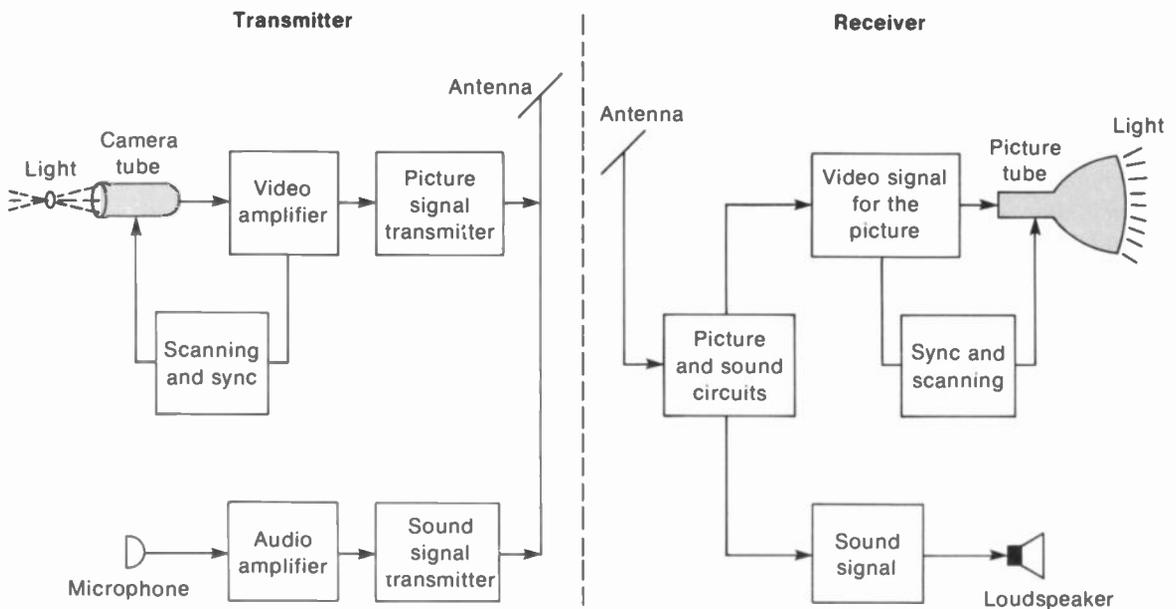

FIGURE 1-2 BLOCK DIAGRAM OF THE TELEVISION BROADCASTING SYSTEM.
The term "broadcasting" means to send out in all directions. As illustrated in Fig. 1-2, the transmitting antenna radiates electromagnetic radio waves that can be picked up by the receiving antenna. For commercial television broadcast stations, the service area is about 25 to 75 mi in all directions from the transmitter. The radiation is in the form of two rf carrier waves, modulated by the desired information. Amplitude modulation (AM) is used for the picture signal. However, frequency modulation (FM) is used for the sound signal.
Referring to Fig. 1-2, we see that the desired sound for the televised program is converted by the microphone to an audio signal, which is amplified for the sound-signal transmitter. For transmission of the picture, the camera
Furthermore, the scanning at the camera tube and picture tube must be synchronized, or timed, with respect to the video signal. The synchronization is necessary to reassemble the picture information on the correct lines. These functions are provided by the block of scanning and synchronizing circuits shown in Fig. 1-2 for the transmitter and receiver. The term "synchronizing" is usually abbreviated *sync*.
The block diagram in Fig. 1-2 illustrates the television broadcasting system for monochrome. In color television, a color camera is necessary at the transmitter and a color picture tube at the receiver. The color camera provides video signal for the red, green, and blue picture information. A color picture tube has red, green, and blue phosphors on the viewing screen to reproduce the picture in color. A typical color picture tube is shown in Fig. 1-5. This type has three electron guns for the tricolor screen. The phosphors can be dot trios of red, green, and blue, or vertical stripes of color as in Fig. 1-1. Then each gun produces an electron beam to illuminate the red, green, or blue phosphor dots on the fluorescent screen.